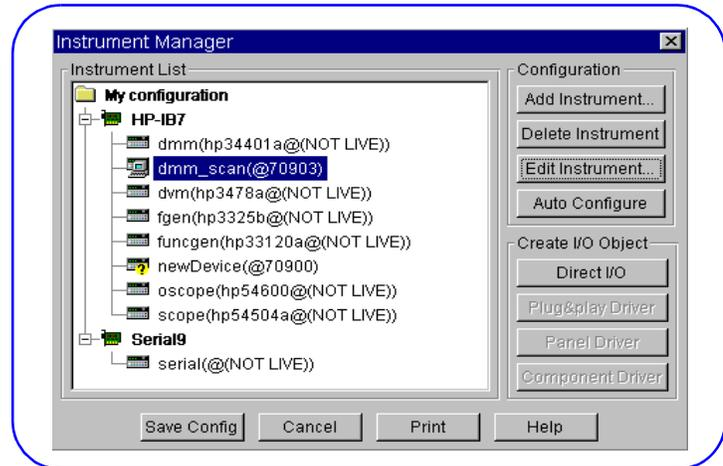

Figure 32. HP VEE Instrument Manager - Configuration
- 3 For an instrument at Logical Address 70903, highlight *newDevice2(@70903)*. Then, click *Edit Instrument* and set the instrument name to *dmm\_scan* (see Figure 32).